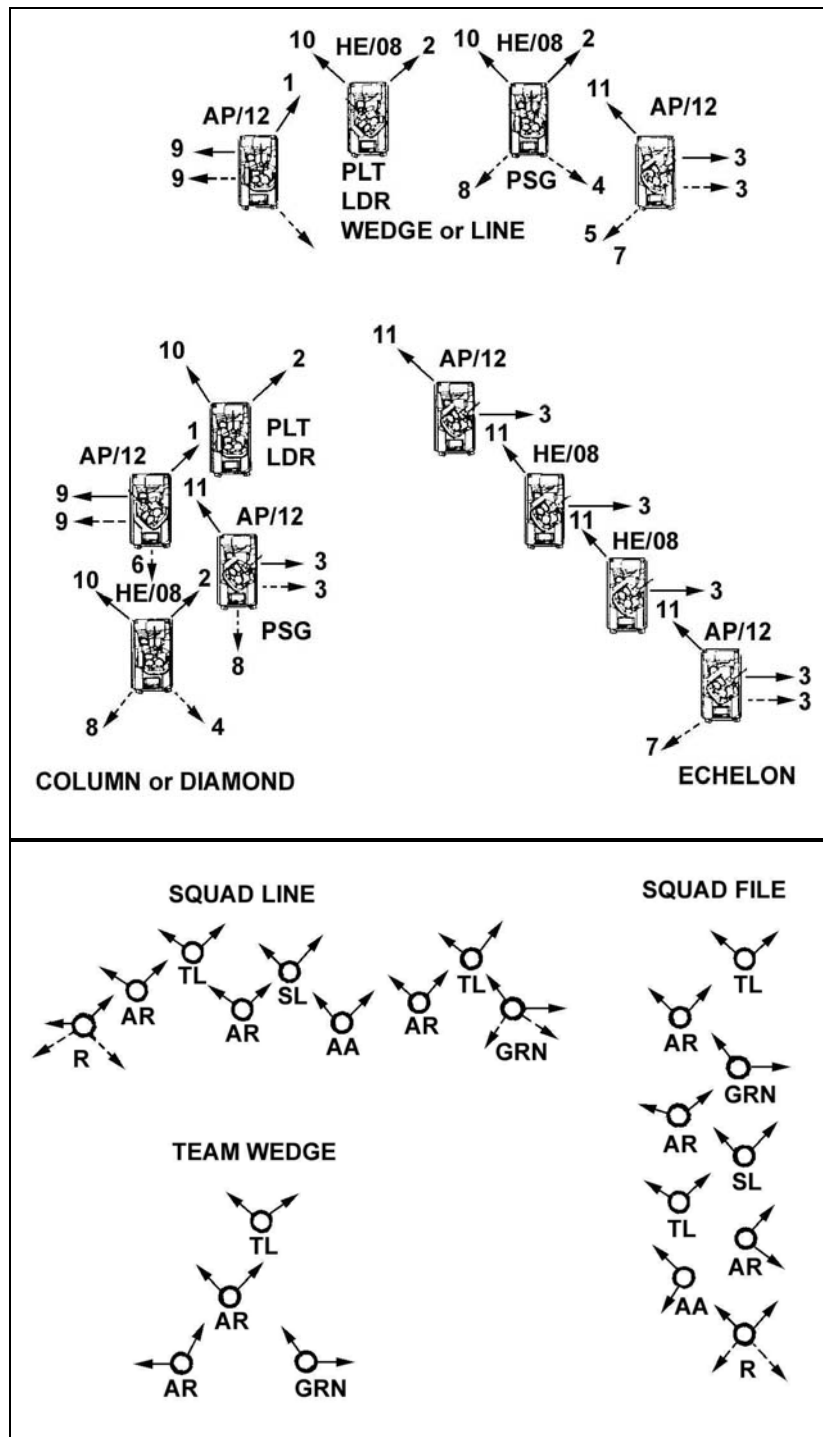

Figure 9-6. Example BFV platoon direct-fire SOP.
a. **Direct Fire.** A well-rehearsed direct-fire SOP ensures that all members of the platoon react quickly and predictably (Figure 9-6, page 9-13). The leader bases each element of the direct-fire plan on the capabilities of the platoon and on the anticipated conditions. For example, if the contingency area is a desert with good observation and long engagement ranges, he selects extended battlecarry settings for the BFVs.
(1) Choosing a standard, respective position for TRPs allows the platoon leader to quickly establish and communicate his location. For example, he might number all reference points from left to right. Three TRPs usually suffice for a platoon during movements, halts, and hasty actions.
(2) The platoon leader assigns sectors and identifies engagement priorities to ensure the platoon acquires all targets and distributes fires effectively. One technique he could use is for both he and the platoon sergeant to search and engage mostly near- to mid-range troops, and for him to have the wingmen observe for mid- to long-range light armored fighting vehicles.
(3) The platoon leader designates a weapons-readiness posture for established sectors and engagement priorities. In addition, the platoon leader and platoon sergeant could, for example, select HE HI and Index 8 for range, while having the wingmen select AP HI and Index 12 for range.
(4) Having a standing fire pattern enables the platoon to distribute fires while engaging multiple, similar targets. For example, the platoon leader and platoon sergeant engage the close to middle targets, then work their way to the outside of the enemy formation. The wingmen, on the other hand, engage targets to their respective fronts, then work their way toward the inside of the enemy formation.
(5) The platoon leader sets standard engagement techniques to achieve desired target effects, minimizing friendly exposure. As an example, he could have the BFVs initiate with simultaneous fire, then revert to alternating fires. One infantry squad suppression pattern technique would be to engage initially with simultaneous fires, then to sustain suppression with alternating fires, with each weapon firing a given number of rounds or bursts.
(6) The platoon leader selects an initial weapons-control status that allows soldiers to engage the enemy, but that at the same time reduces the chance of fratricide. "Weapons tight" is a good initial weapons-control status.
(7) The platoon leader chooses signals for shifting fire that members of the platoon can both hear and see. For example, he might decide to use a green pyrotechnic and a certain code word to shift fires, and a red pyrotechnic and another code word to adjust or cease fires.
(8) The platoon leader plans for degraded capabilities and loss. In one example, a single BFV temporarily assumes the responsibilities of a nonmission-capable or degraded BFV of the same section. As the operational tempo permits, the platoon leader adjusts to compensate for the degraded capabilities and losses. Also, if an automatic rifleman or antiarmor gunner becomes a casualty, the assigned backup secures the M249, M240B, or any antiarmor weapon and assumes the downed soldier's sector responsibilities.
- (1) **Target Reference Points.**
- (2) **Shift Signals.**
- (3) **Weapons-Control Status.** This should be weapons tight, unless stated otherwise.
- (4) **Sector of Fire and Weapons-Ready Posture.** (Figure 9-6.)
- (5) **Engagement Priorities.**
- (6) **Cease-Fire Criteria.**
- (7) **Frontal Fire Pattern.**
- (8) **Engagement Technique.** The platoon fires simultaneous fire, then alternates fire.
- (9) **Sectors.** (Figure 9-6.)
- (10) **Weapons-Ready Posture.**